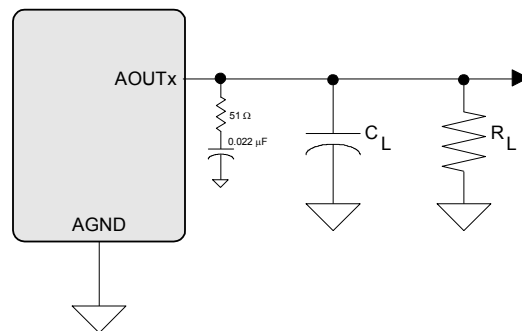

Figure 3. Headphone Output Test Load
10. See Figure 3. R_L and C_L reflect the recommended minimum resistance and maximum capacitance required for the internal op-amp's stability and signal integrity. In this circuit topology, C_L will effectively move the band-limiting pole of the amp in the output stage. Increasing this value beyond the recommended 150 pF can cause the internal op-amp to become unstable.
(Test conditions (unless otherwise specified): Input test signal is a full-scale 997 Hz sine wave; measurement bandwidth is 10 Hz to 20 kHz; Sample Frequency = 48 kHz and 96 kHz; test load $R_L = 10\text{ k}\Omega$, $C_L = 10\text{ pF}$ for the line output (see Figure 3), and test load $R_L = 16\text{ }\Omega$, $C_L = 10\text{ pF}$ (see Figure 3) for the headphone output. HP_GAIN[2:0] = 011.)
Test conditions (unless otherwise specified): Input test signal is a full-scale 997 Hz sine wave; measurement bandwidth is 10 Hz to 20 kHz; Sample Frequency = 48 kHz; test load $R_L = 10\text{ k}\Omega$, $C_L = 10\text{ pF}$ (see Figure 3).
Test conditions (unless otherwise specified): Input test signal is a full-scale 997 Hz sine wave; measurement bandwidth is 10 Hz to 20 kHz; Sample Frequency = 48 kHz; test load $R_L = 16\ \Omega$, $C_L = 10\ \text{pF}$ (see Figure 3).